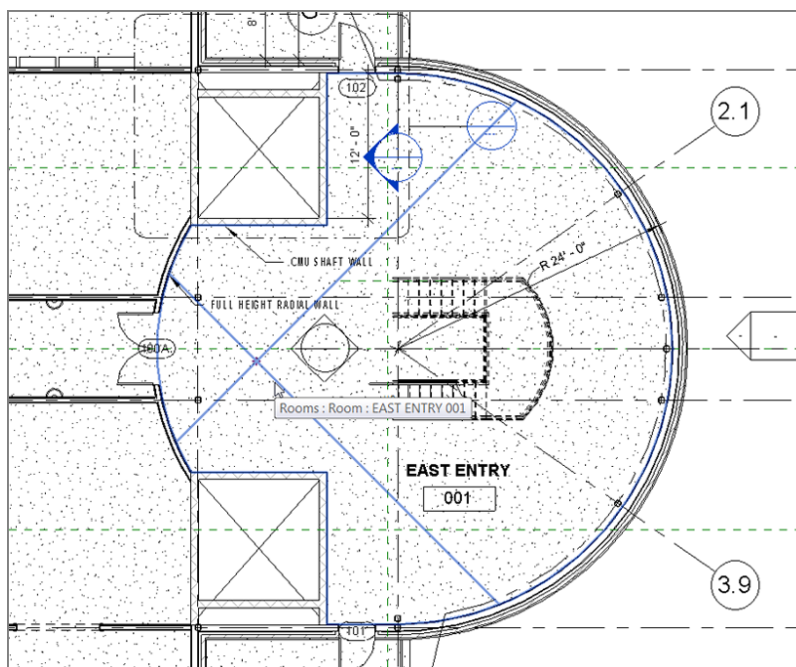

FIGURE 15.9: Selecting the east entry room
1. Zoom in on the east entry area, and select the room, as shown in Figure 15.9.